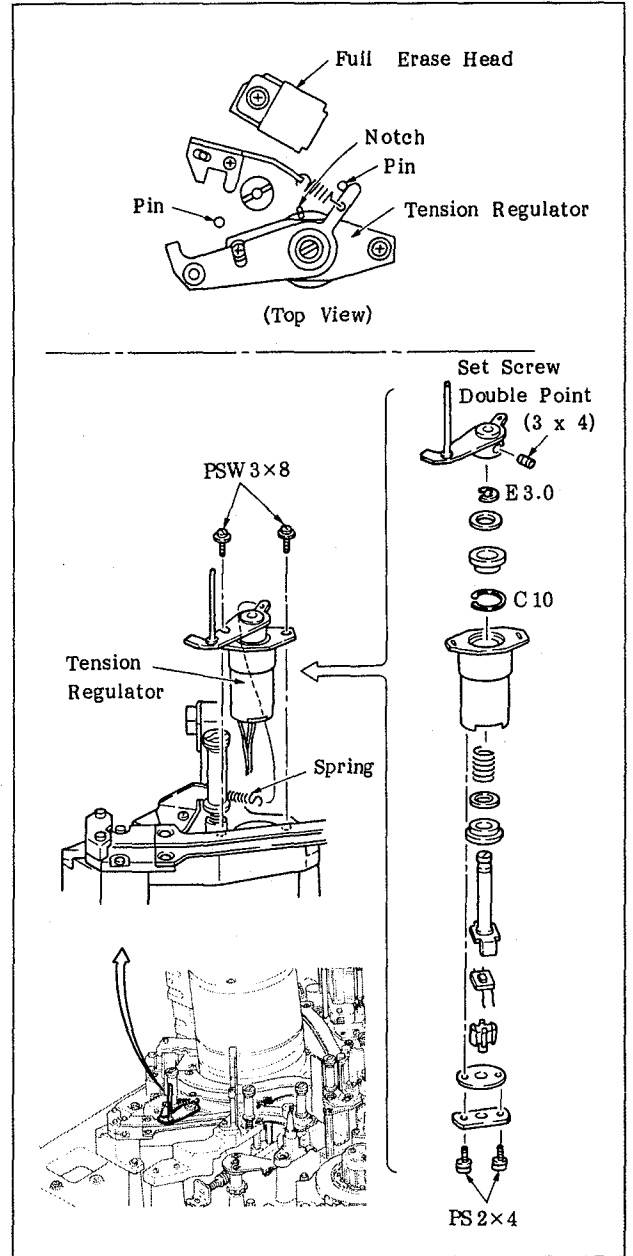

Fig. 6-52 Replacement of the Tension Regulator
- A. Refer to Figure 6-52 when replacing the components of the tension regulator. Adjustments to be made after replacement can be made in a manner similar to that of assembling.
2. Remove the tension regulator, or the component, and replace it with a new one by referring to Figure 6-52.
**Note:** Be careful of the position of the notch and the pins, as shown in the upper drawing of Figure 6-52, when attaching the tension regulator assembly.